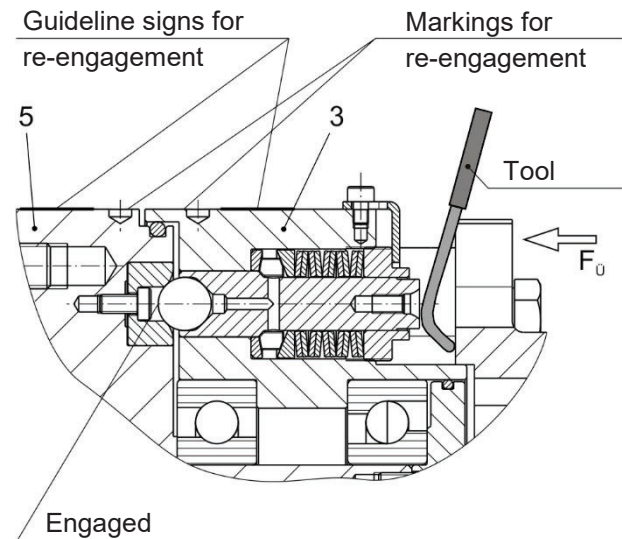

Fig. 7
Re-engagement (Fig. 7)
Both of the yellow guideline signs for regaining the synchronous position (due to balance quality) on the outer diameters of the element flange (3) and the pressure flange (5) must align with each other (Fig. 7).